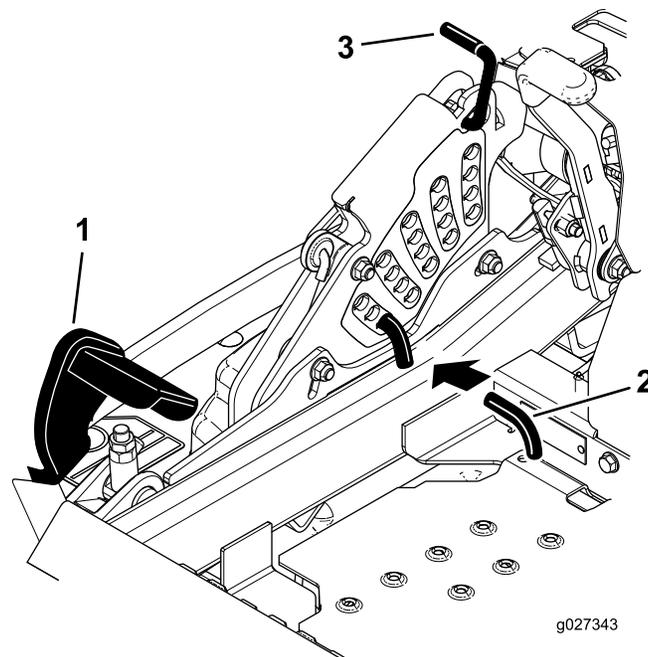

Figure 106
- Push the deck-lift pedal all the way forward and the deck latches at the 14 cm (5-1/2 inches) transport position (Figure 106).